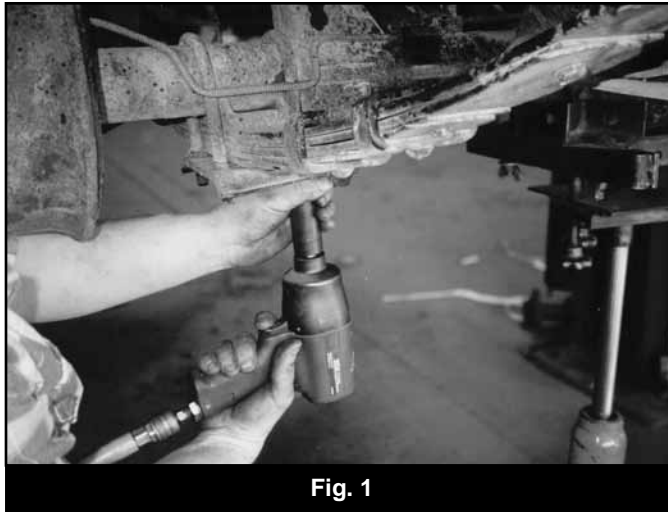

Fig. 1
4. Support the differential. Remove u-bolts and u-bolt mounting plates. Remove spring mounting bolts. Remove springs. (Fig. 1)